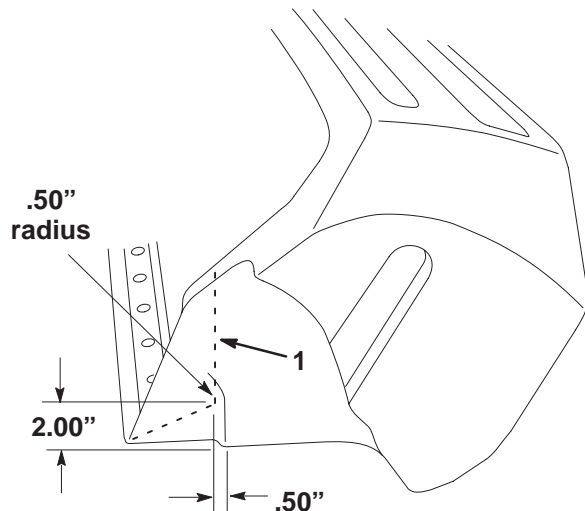

Figure 4
1. Using dimensions shown in Figure 4, locate and mark cut-off lines on each side of basket.